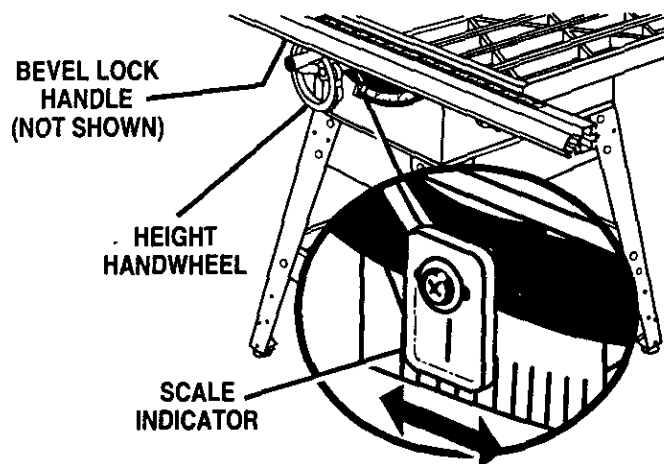

Fig. 45
See Figures 45 and 46.
- Loosen bevel lock handle and turn the bevel handwheel clockwise to tilt the blade. See Figure 45. Reverse it and turn handwheel counterclockwise until it stops.